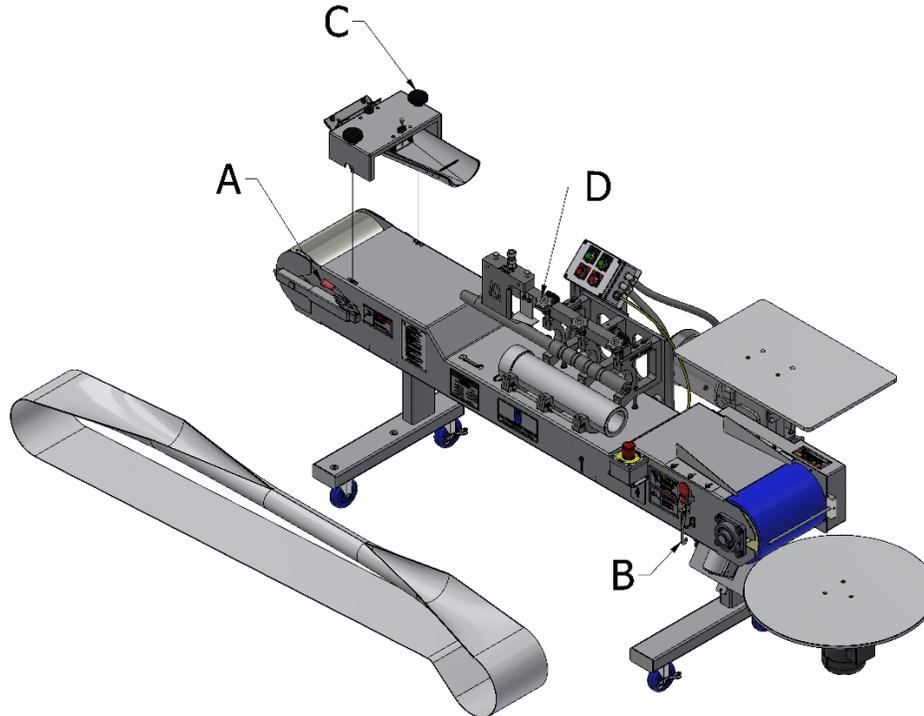

Figure 8: Belt Removal
- A. Lift the two red handled clamps (Figure 8, A.) on the drive roller end and push the drive roller inwards.
- B. Locate the red handled swing plate latch on the opposite end (Figure 8, B).
- C. Locate the two black knobs on top of the pressure plate bridge (Figure 8, C).
- D. Locate the three (3) star knobs on the mandrel support area (Figure 8, D).
The bagel belt must be properly installed, aligned, and tensioned for the belt to track in the center of the rollers and to prevent premature wear. If reinstalling the bagel belt, perform the previous section for Figure 8 in reverse.
1. The hex nuts found at the very end of the lifting clamps in Figure 8, A are used to adjust the tension.